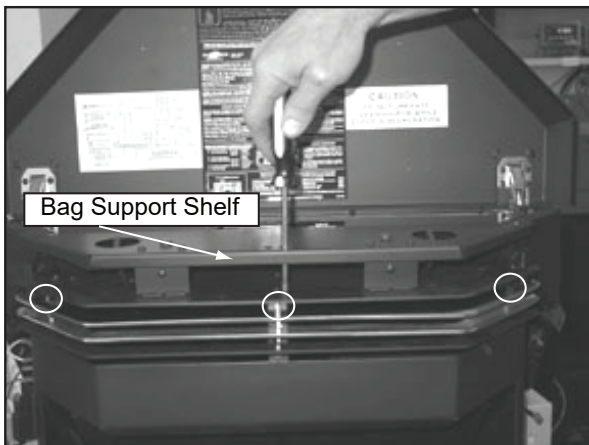

Figure 23.1
4. Use a Phillips screwdriver to secure in place. It will be necessary to go through the hole in the bag support shelf to gain access to the screw (**Figure 23.1**).